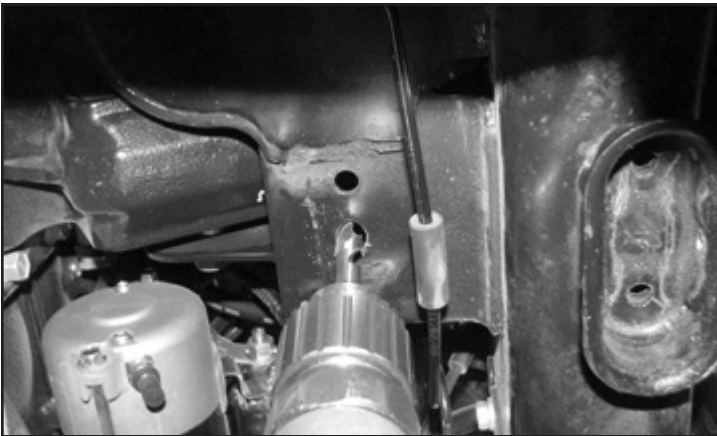

FIGURE 24 - STEP 31
31. Using a 1/2" drill bit, drill out the hole in the factory crossmember inline with the factory bump stop mount. **SEE FIGURE 24**